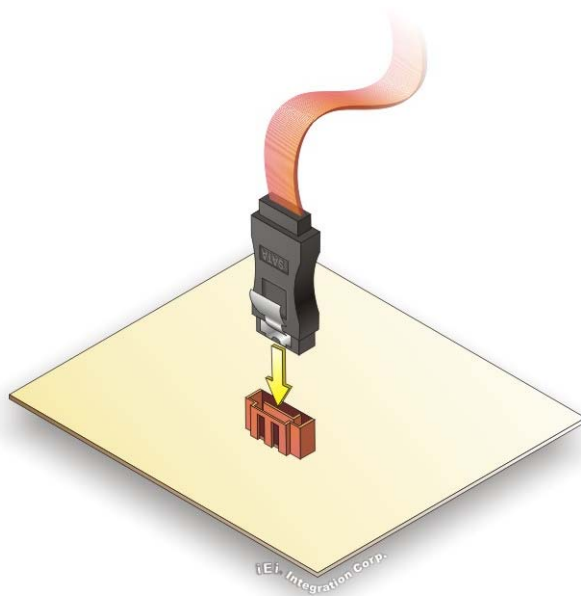

Figure 4-20: SATA Drive Cable Connection
Step 2: **Insert the cable connector.** Insert the cable connector into the on-board SATA drive connector until it clips into place. See **Figure 4-20**.